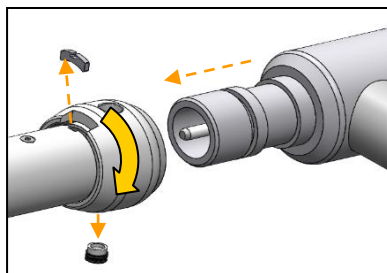

Figure 39
- Carefully insert the lamphead spigot interface into the spring-arm until the spigot groove is visible through the segment slot. See Figure 39.